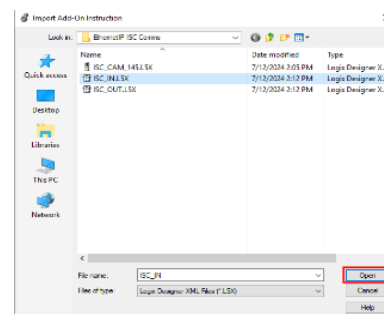

Figure 33: File Explorer Import Add-On Instruction – AOI_ISC_CAM_v2_INPUTS.L5K
17. In the file explorer “Import Add-On Instruction” navigate to “AOI_ISC_CAM_v2_INPUTS.L5K” and “Open” the file, Figure 33.